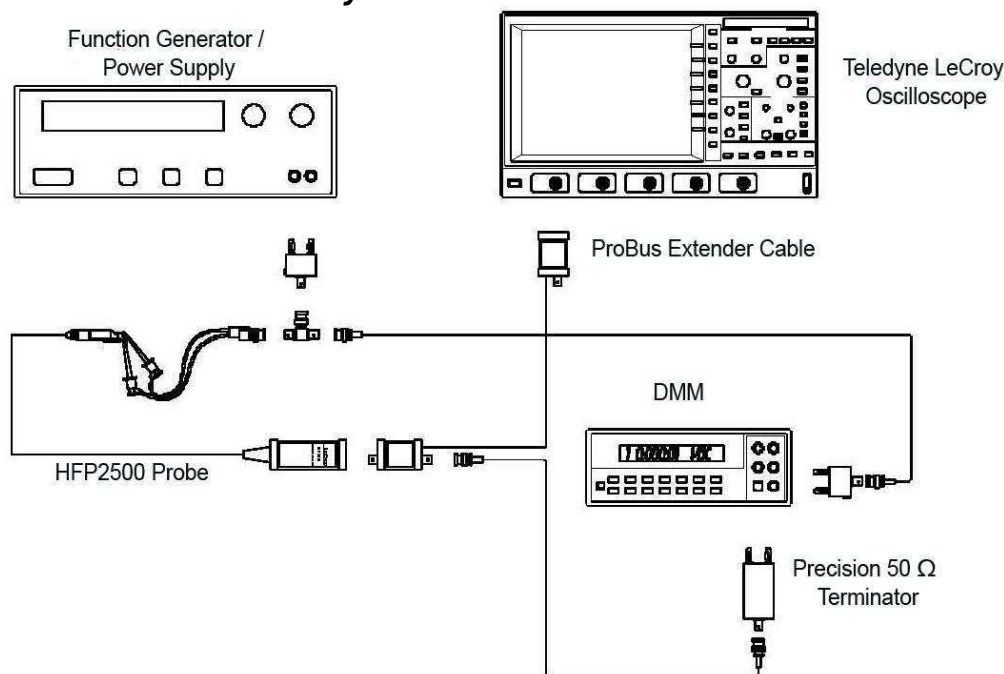

Figure 6, Attenuation Accuracy Test Setup
1. Connect the BNC end of the BNC to mini-grabber cable to a female end of the BNC tee adapter. (Refer to Figure 6, **Attenuation Accuracy Test Setup**).